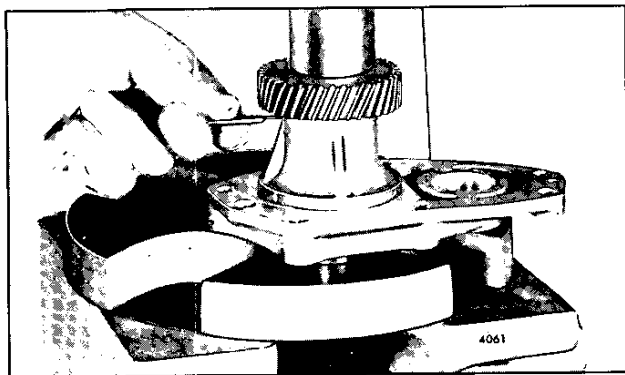

Fig. 18 – Installing Blower Drive Gear on Shaft
4. Install the key in the shaft, then place the blower drive support on an arbor press. Lubricate the inner diameter of the blower drive gear and start it straight on the shaft, with the keyway in the gear aligned with the key in the shaft. Place a spacer over the gear and press the gear on the shaft until a .005" feeler gage may just be withdrawn (Fig. 18).